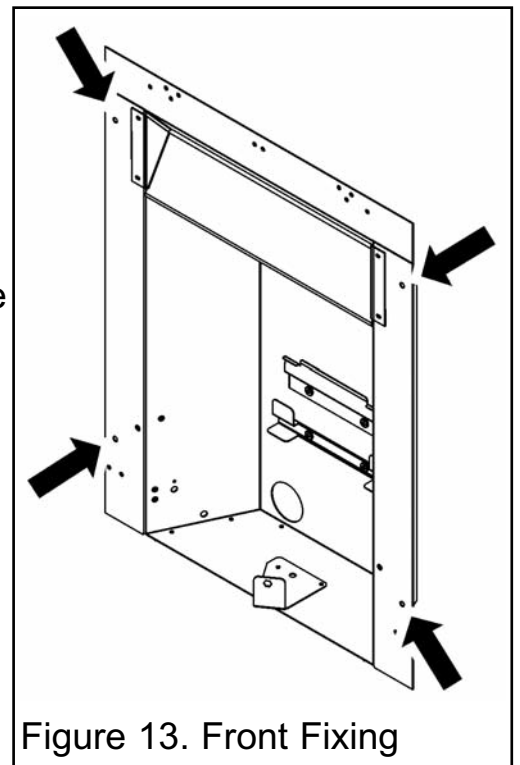

Figure 13. Front Fixing
3. Mark the fireplace front surround through the four fixing holes in the side flanges of the hotbox (See figure 13).